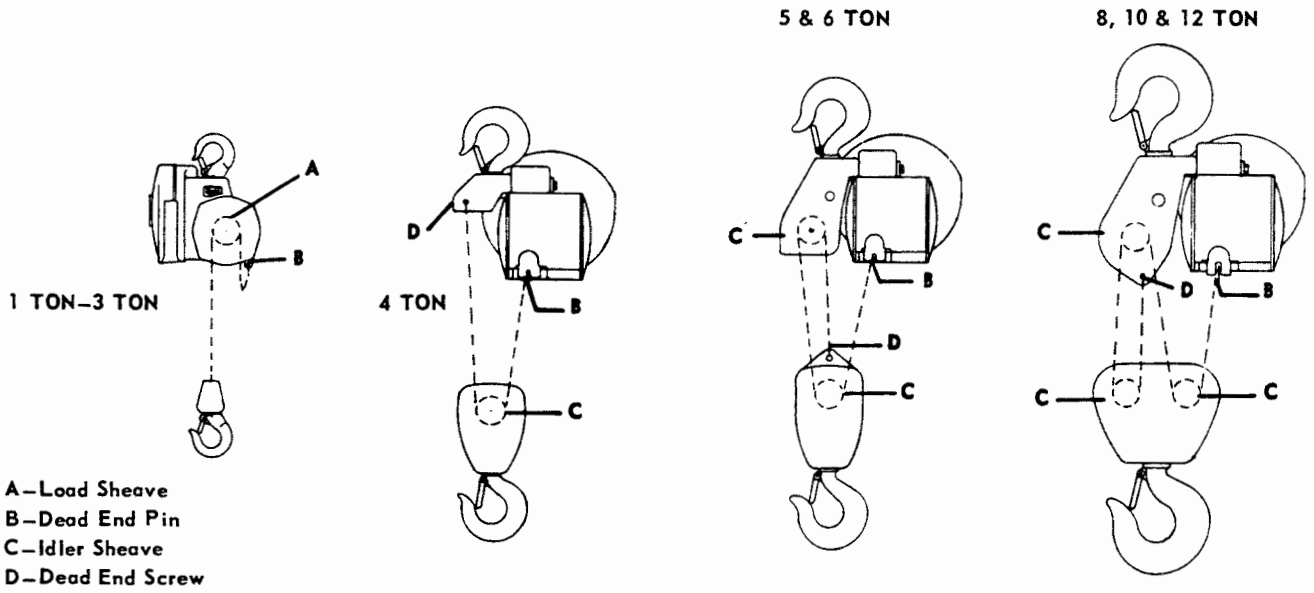

FIGURE 5-4 CHAIN REEVING
f. Check load chain reeving per figure 5-4 making sure that there are no twists in the load chain.
d. The chaining instructions above apply to all CB hoists, when reeving the load chain through the Load Sheave and is all the chaining necessary on capacities 1 Ton through 3 Ton, however the larger capacities also use idler sheaves. As above, after securing one end of the load chain to the Dead End Pin in the Shedder the other end of the chain is to be stretched out to be sure all links are straight (no twist or kinks) and the end reeved through the idler sheaves as shown in Figure 5-4. The idler sheaves are free turning so the chain can be worked through by turning the sheaves with a finger while feeding the chain in. This can also be done by attaching a wire to the end of the load chain and working it around the sheaves one at a time. When this end of the chain is properly reeved secure the end of the chain to the outrigger or the load block with the Dead End Screw as indicated in Figure 5-4.